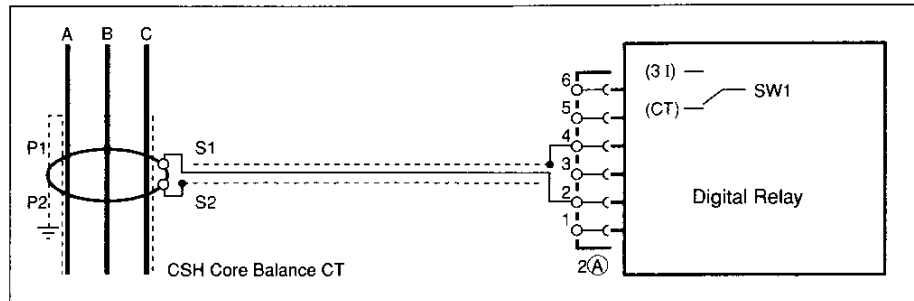

Figure 78: Connecting digital relay with a CSH core balance CT for the 2 A rating
- For 2 A rating: connect to terminals 2A2 and 2A4 (figure 78).